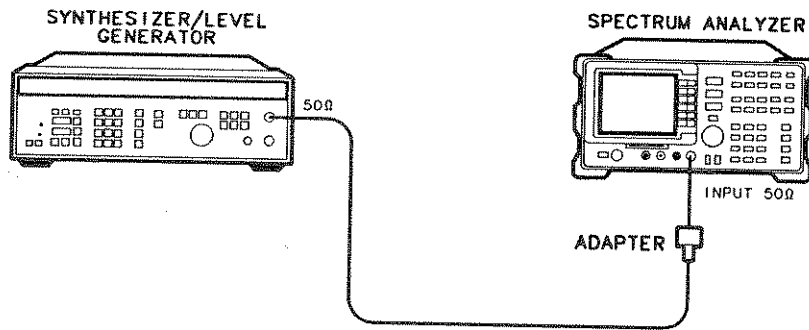

Figure 3-17. Frequency Response Test Setup (<50 MHz)
17. Using a cable, connect the HP 3335A directly to the INPUT 50 Ω . Refer to Figure 3-17.